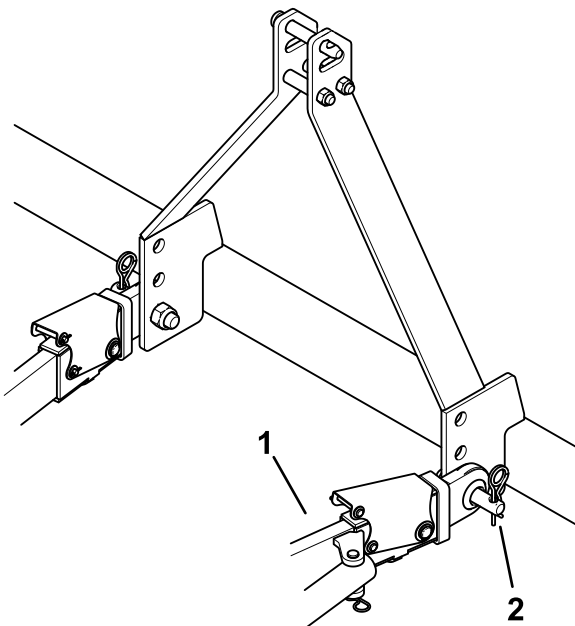

Figure 7
5. Insert the right and left lower link arms onto the hitch pins (Figure 7).